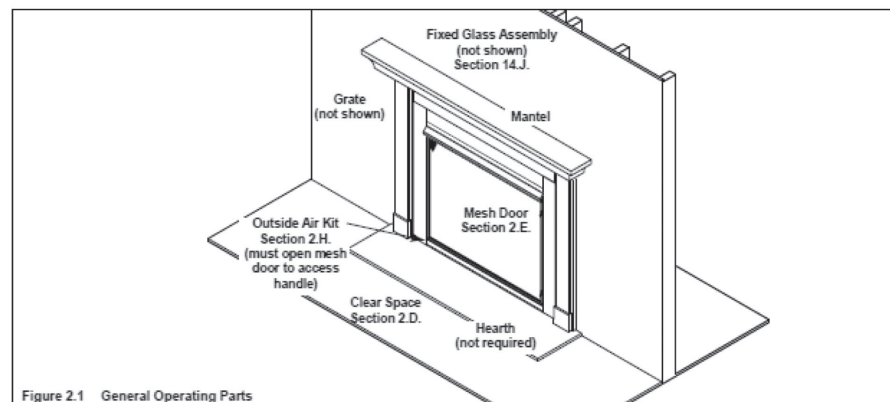

Figure 2.1 General Operating Parts
- Refer to Figure 2.1 for location of control.